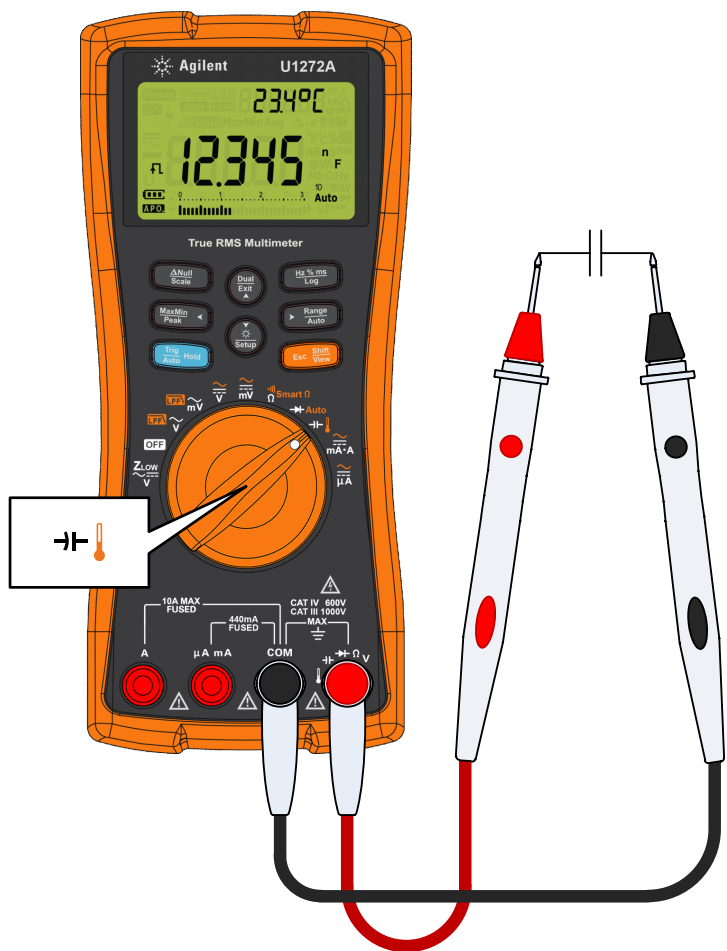

Figure 2-26 Measuring capacitance
- 1 To measure capacitance, position the rotary switch to $\rightarrow \text{C}$ and set up your multimeter as shown in Figure 2-26.